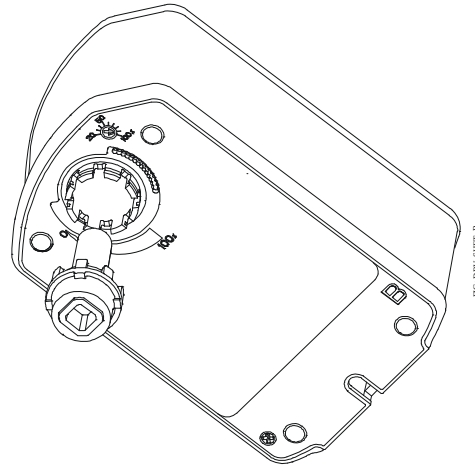

Figure 6: Inserting the Drive
4. Insert the drive shaft into Side B (Figure 6).